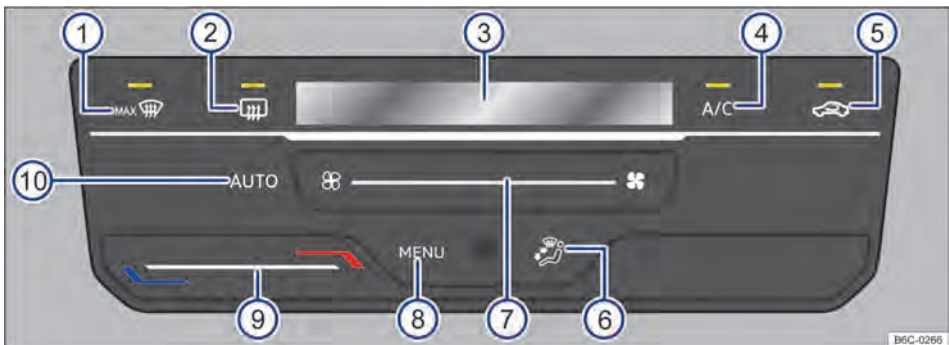

Fig. 82 Climatronic controls.
- *Climatronic*: slide your finger to the left under the function surface → Fig. 82 ⑦, then press the leftmost  button.
When touching the function button  → Fig. 82 ⑩ it is possible to switch on the Climatronic automatic mode.
The automatic mode ensures constant temperatures in the vehicle interior. The air temperature, the air volume and its distribution is automatically regulated. Automatic operation turns off when ventilation is changed manually → Fig. 82 ⑦ or by changing the air distribution across the function button → Fig. 82 ⑥.
- *Climatronic*: touch the function button  → Fig. 82 ④ to turn on and off the cooling functioning.
- *Climatronic*: slide your finger under the function button → Fig. 82 ⑨.
On the Climatronic display → Fig. 82 ③ the set temperature is displayed.
- *Climatronic*: slide your finger under the function button → Fig. 82 ⑦.
- *Climatronic*: Touch the function button  → Fig. 82 ⑤.
- *Climatronic*: touch the function button → Fig. 82 ⑥ on the desired position, the selected distribution will be indicated on the display ③.
- *Climatronic*: Touch the function button  → Fig. 82 ①.
- *Climatronic*: touch the function button  → Fig. 82 ②.
For vehicles with VW Play, press **MENU** → Fig. 82 ⑧ to open the air conditioning menu on the radio.